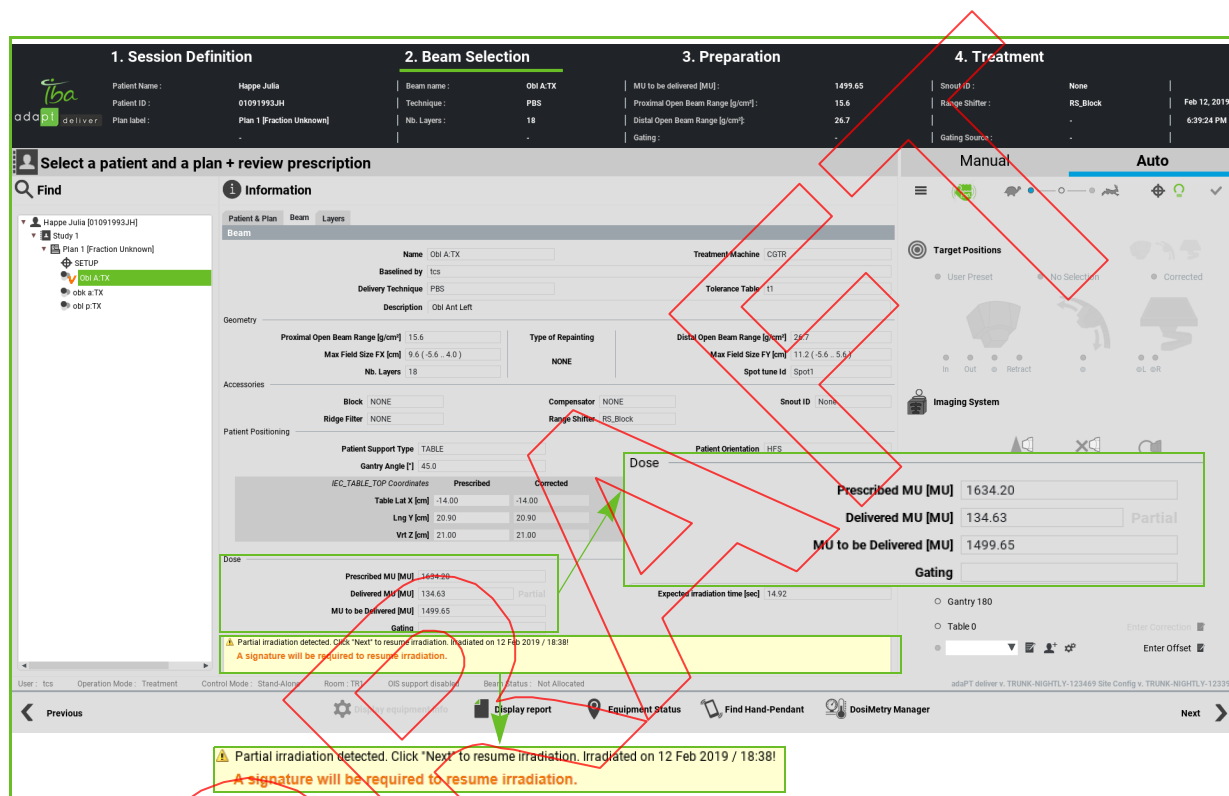

Figure 39-26. Resuming irradiation after partial treatment
In the Beam Selection screen (Figure 39-26), the beams marked as partial are indicated by an orange checkmark .
6. In the **Dose panel** (Figure 39-26), the user can see that: